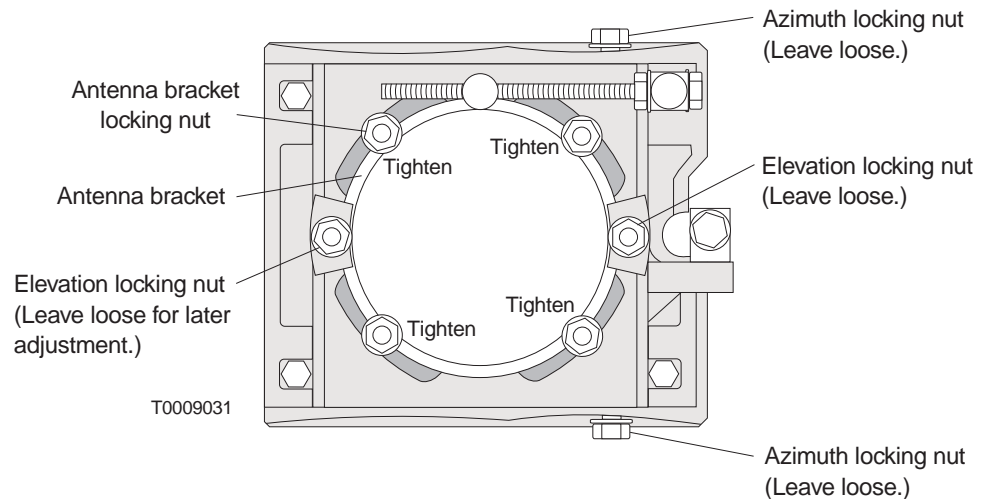

Figure 6-18 Antenna bracket locking nuts (and other nuts)
- When the elevation is properly adjusted, tighten the four antenna bracket nuts to 16 foot-pounds torque (21.7 Newton-meters). See figure 6-18.**
At this point, the four antenna bracket locking nuts and the four mast clamp nuts should be tight (torqued as specified). Leave the two azimuth locking nuts and two elevation locking nuts loose, to allow for later adjustments. See figure 6-18.